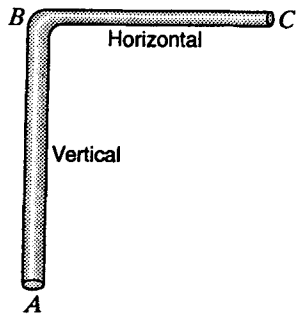

Figure P5.4
5.5 Refer to Fig. P5.4. Water at 10°C flows up AB (5 m long, 40 mm diameter), then along BC (3 m long, 30 mm diameter). The measured pressure at A is 275 kPa. (a) Find the pressure at C if the flow rate is 2.0 L/s. Neglect pipe friction and energy losses. (b) Repeat for the same flow rate in the opposite direction.